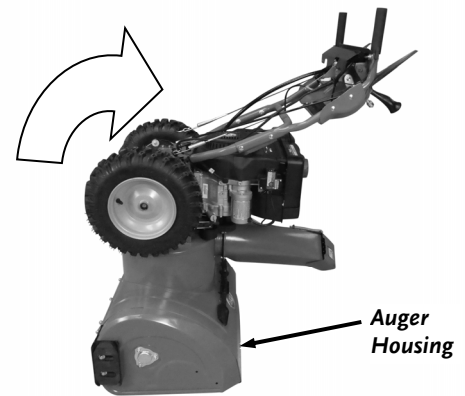

Figure 66
3. With the help of another person, tip the Snow Blower onto the Auger Housing (**Figure 66**).